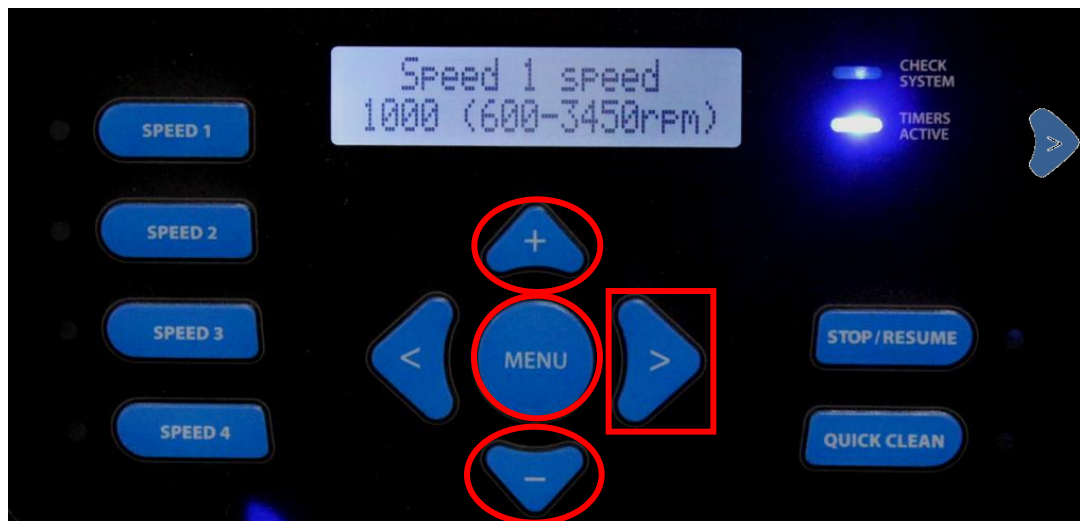

Fig 61
4. While in this screen you can set the speed from 600 RPM (17%) to 3450 RPM (100%) by pressing the  &  button (fig 61). Press the  button to continue.